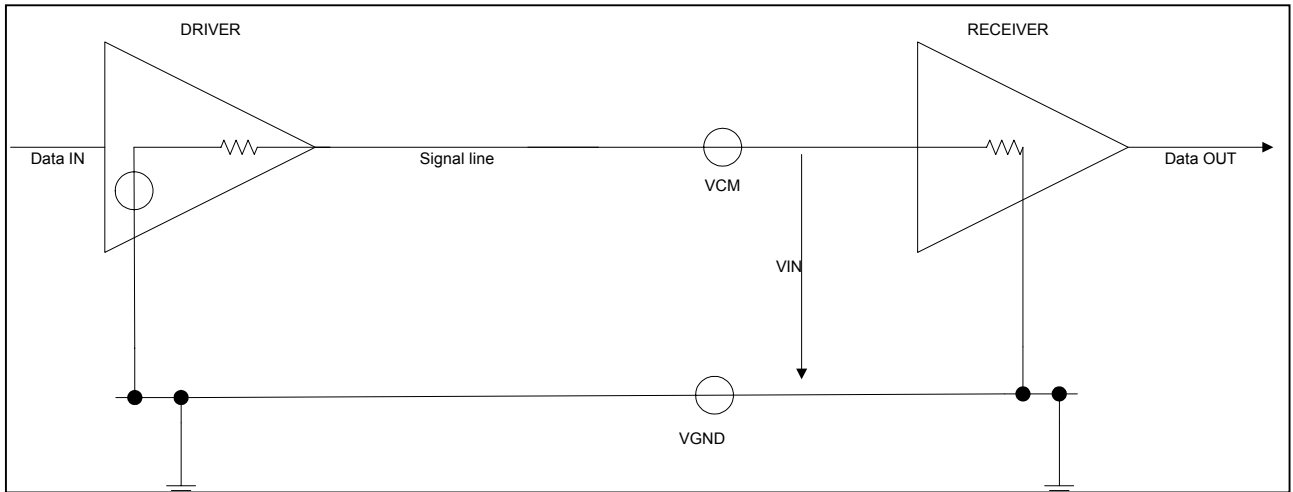

Figure 1: Single ended transmission
- Figure 1: Single ended transmission 7
Figure 1 shows the electrical schematic diagram of a single-ended transmission system.